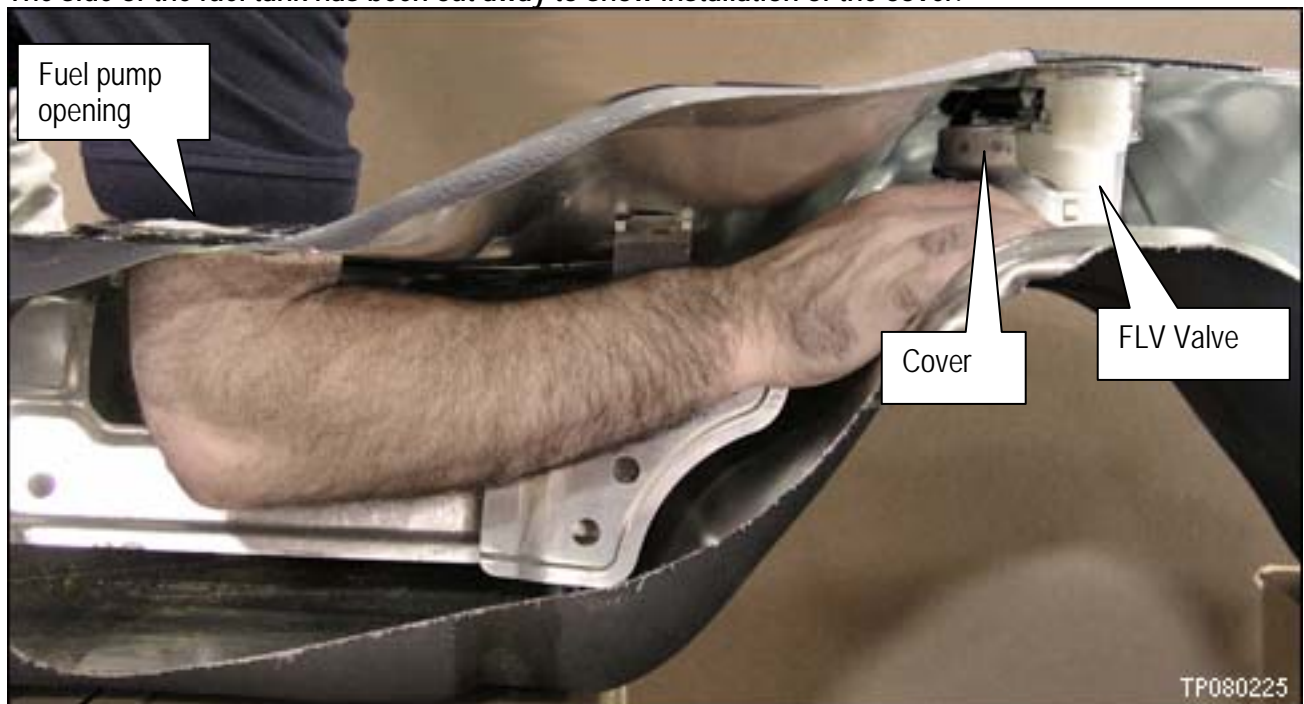

Figure 4
- Refer to Figures 4 through 8.